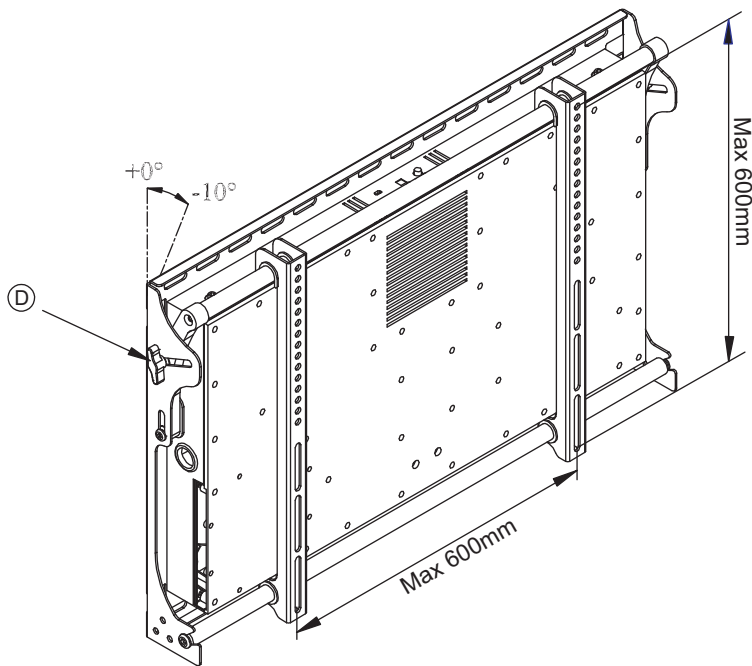

Figure 13 - Adjust Angle
Adjust the angle of the TV and then tighten the handles (D) and locking screws (A) (Figure 13). You can then adjust the width and angle of the speakers and lock the speaker screws as described in Step 8.